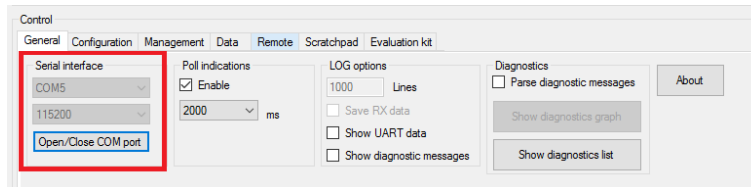

Figure 4: Open COM port
- i. Select the right COM port of the Thetis-I evaluation board and press the "Open/Close COM port" button (see figure 4).